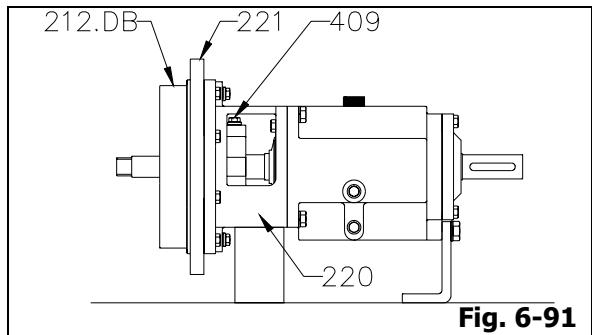

Fig. 6-91
5. Install all connection plugs (409) or/and piping adaptors into stuffing box cover (212.DB) (Fig. 6-91).